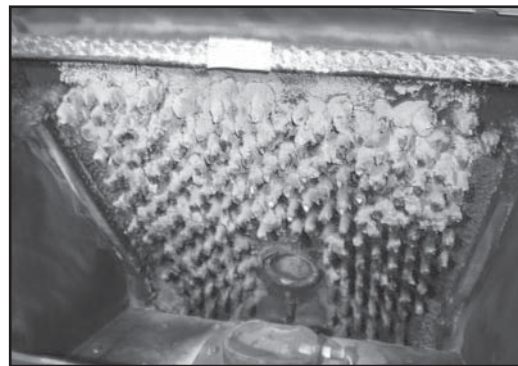

Figure 17.2 - Example of a dirty heat exchanger
- It is necessary to remove the baffle to gain access to the heat exchanger (figure 17.2). Follow instructions for baffle removal on **page 20**.